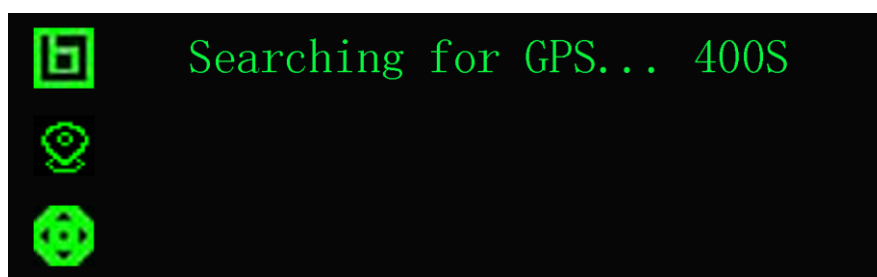
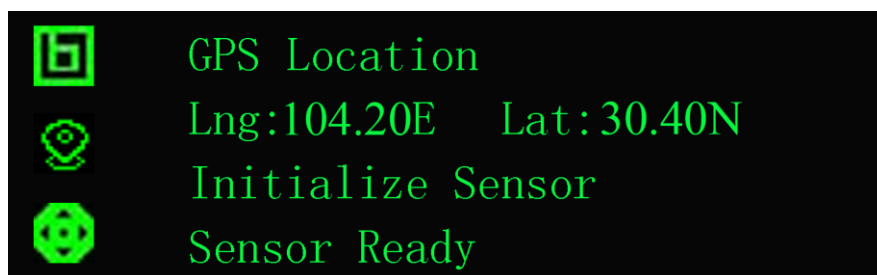

Figure 5-7 GNSS signals acquisition
Figure 5-8 GNSS Signal Acquisition Successful
2. When the Terminal is powered on, the Terminal will display with indicator and abbreviated text. The display icon description of system initialization is shown in Table 5-1. The first three items are main power supply detection, general power supply, LNB power supply and BUC power supply. As shown in Figure 5-7, the power quantity is displayed; when the self-test passes, it will be displayed as shown in Figure 5-8.
3. The GNSS signals acquisition process is displayed as shown in figures 5-8 and 5-9 (Lng is abbreviation of Longitude, Lat is abbreviation of Latitude).